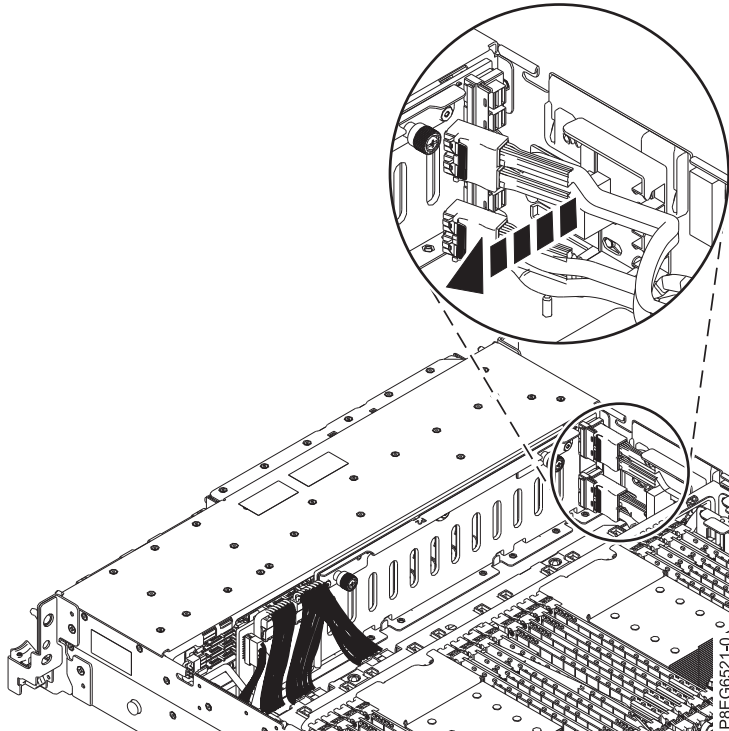

Figure 3. Unseating the SAS cables
4. Unseat the front SAS cables from the cable guide on the side of the system chassis. See Figure 3 on page 8.